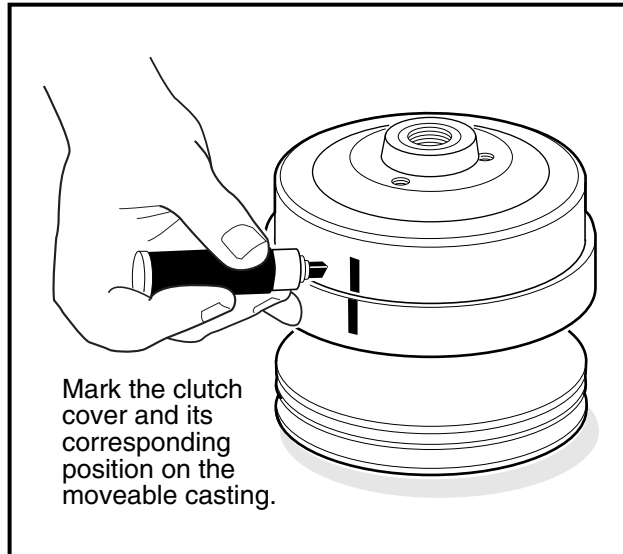

Figure 17-5 Mark Clutch Cover
- **The drive clutch is balanced as an assembly. Before disassembly, make match marks on the clutch cover and on the moveable face assembly so they can be reassembled in the same positions (Figure 17-5, Page 17-7).**
1. Make match marks on the clutch drive hub and on the moveable face casting (**Figure 17-5, Page 17-7**).